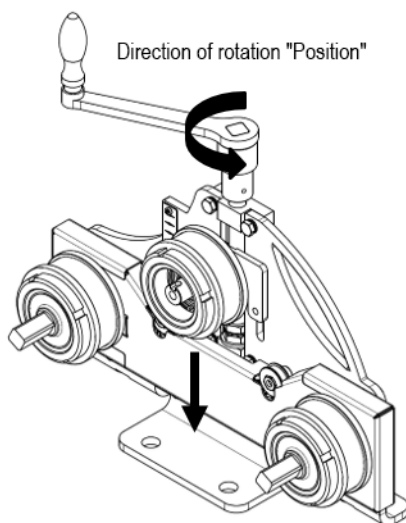
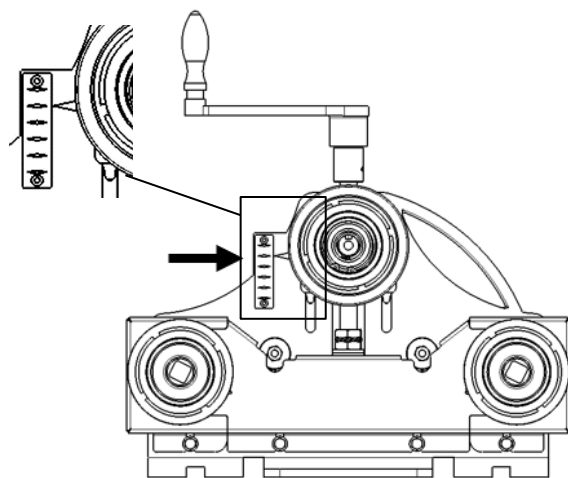

Fig. 12: Position of bending roller
Fig. 13: Adjustment before start of bending
At the beginning, the arrow at the diamond scale (to the left of the upper roll) should be on the 2nd diamond from the top (see Fig. 12 and Fig. 13).
- The desired radius is achieved by the gradual positioning of the bending roller. From a radius of approx. 4 m with approx. one crank rotation, and for radii smaller than 4 m with max. $\frac{1}{2}$ crank rotation (see Fig. 12 and Fig. 13).